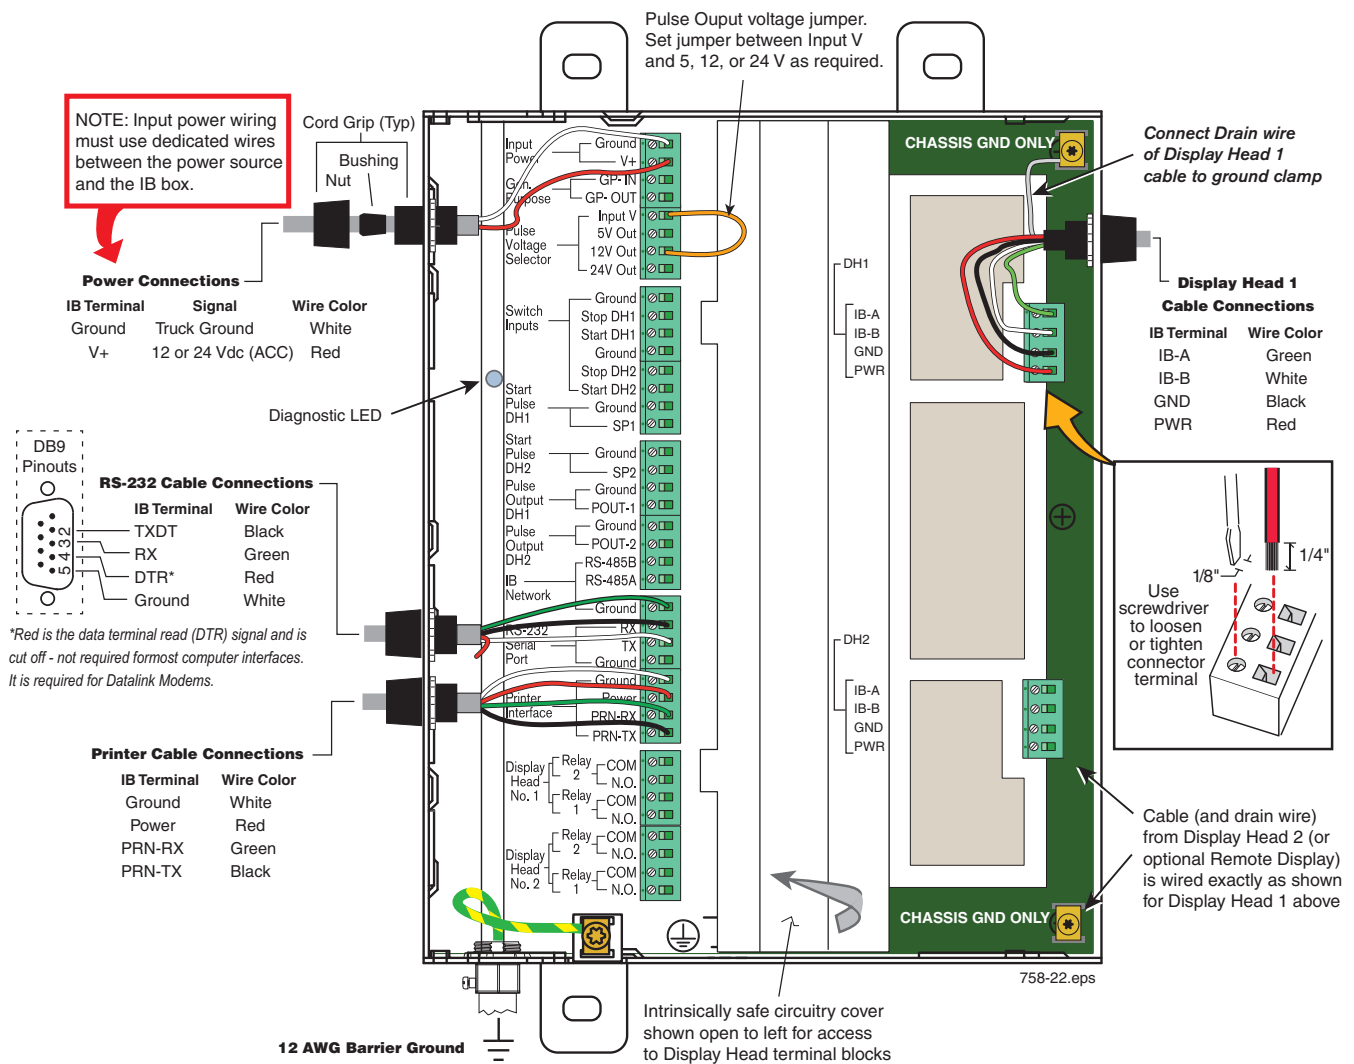

Figure 24. Wiring The Interconnection Box
2. Table 7 and Figure 24 show IB Power Side terminal wiring connections. Use Power Side knockouts (left side of IB) for all cables attaching to this terminal block.
4. Table 8 and Figure 24 show the IB intrinsically safe terminal wiring connections. Use Intrinsically Safe Side knockouts (right side of IB under cover) for Display Head cable entries. The drain wire in each Display Head cable must be connected to the adjacent chassis ground clamp.
Attach the four wires of the printer power/data cable to the appropriate terminals of the Power Side terminal block in the IB (Figure 24 on page 32) and the DB-25 connector and the round power connector to the appropriate connectors on the rear of the printer
Attach the four wires end of the printer power/data cable to the appropriate terminals of the power side terminal block in the IB (Figure 24). Attach the DB-25 connector and the round power connector on the other end of the cable to the appropriate connectors on the rear of the printer (Figure 33).